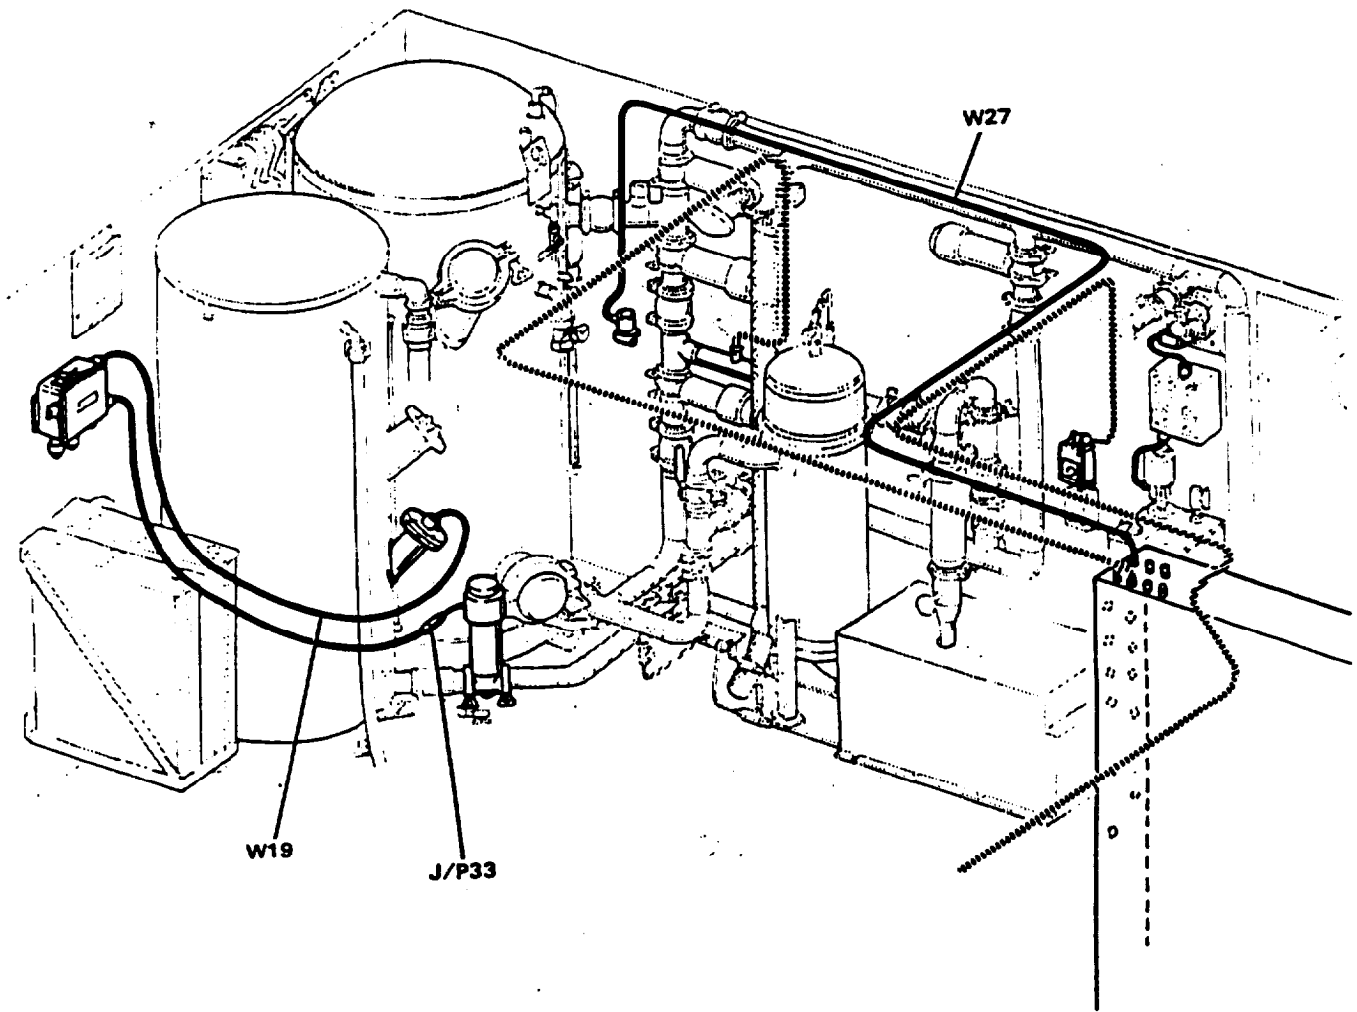

Figure 4-29. Electrical Installation (sheet 6 of 8) Primary Harness, Back Wall, W-33
a. If utility light cable (11, Figure 4-29, sheet 8, View D) was removed, proceed as follows:
(1) Install housing (19) with two capscrews (16), lockwashers (17) and washers (18).
(2) Place nut (12), retainer (13) and bushing (14) on cable (11).
(3) Install connector body (15) into housing (19).
(4) Insert cable (11) through body (15) and the hole in housing (19). Push enough wire to enable easy connection to socket (5).
(5) Place gasket (10) on housing (9).